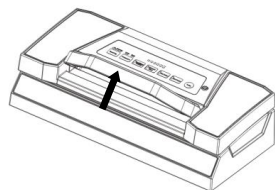

Fig.4
7.The vacuum packaging is done. Rock the handle to open the cover and take out the packed bags – **Fig. 4**